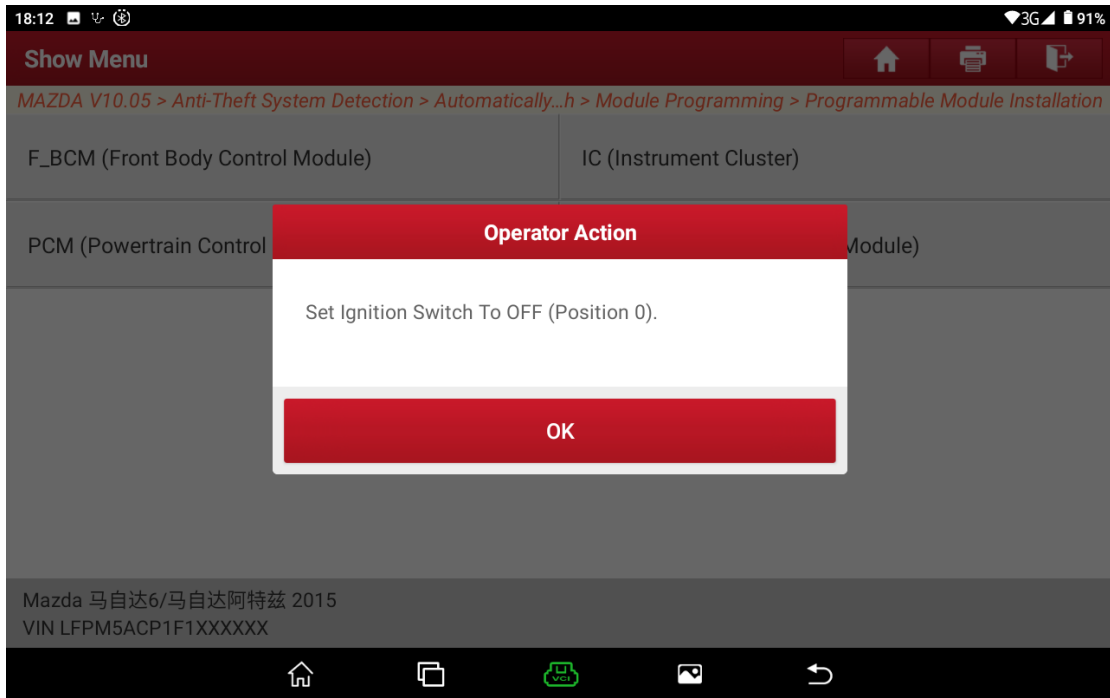

Figure B15
12. Turn off the ignition switch. See Figure B15.